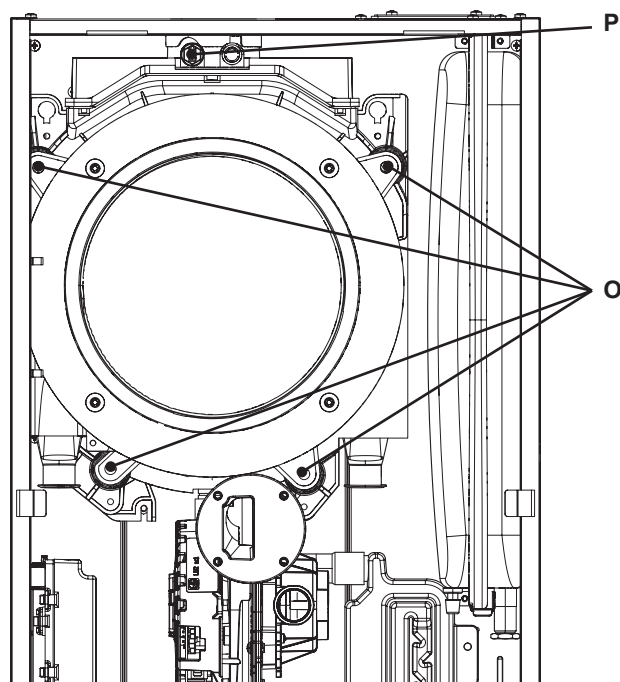

Figure 5.3
- 11 Unscrew the screws "O" and remove the clamps (Figure 5.3).
- 12 Disconnect the connector "P" by pressing the plastic hook placed on the side of the connector (Figure 5.3).